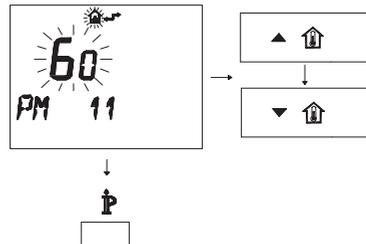

Fig. 8.21
- To modify the programmed SET, act on buttons ▲ **⬆** or ▼ **⬆** and wait for the programmed number to flash (Fig. 8.21). Each step increased or decreased corresponds to 1 second.